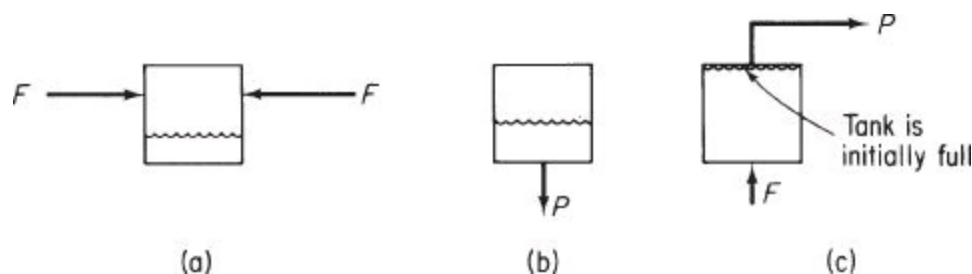

Figure P3.1.8
****3.1.8.** Examine the processes in Figure P3.1.8. Each box represents a system. For each, state whether